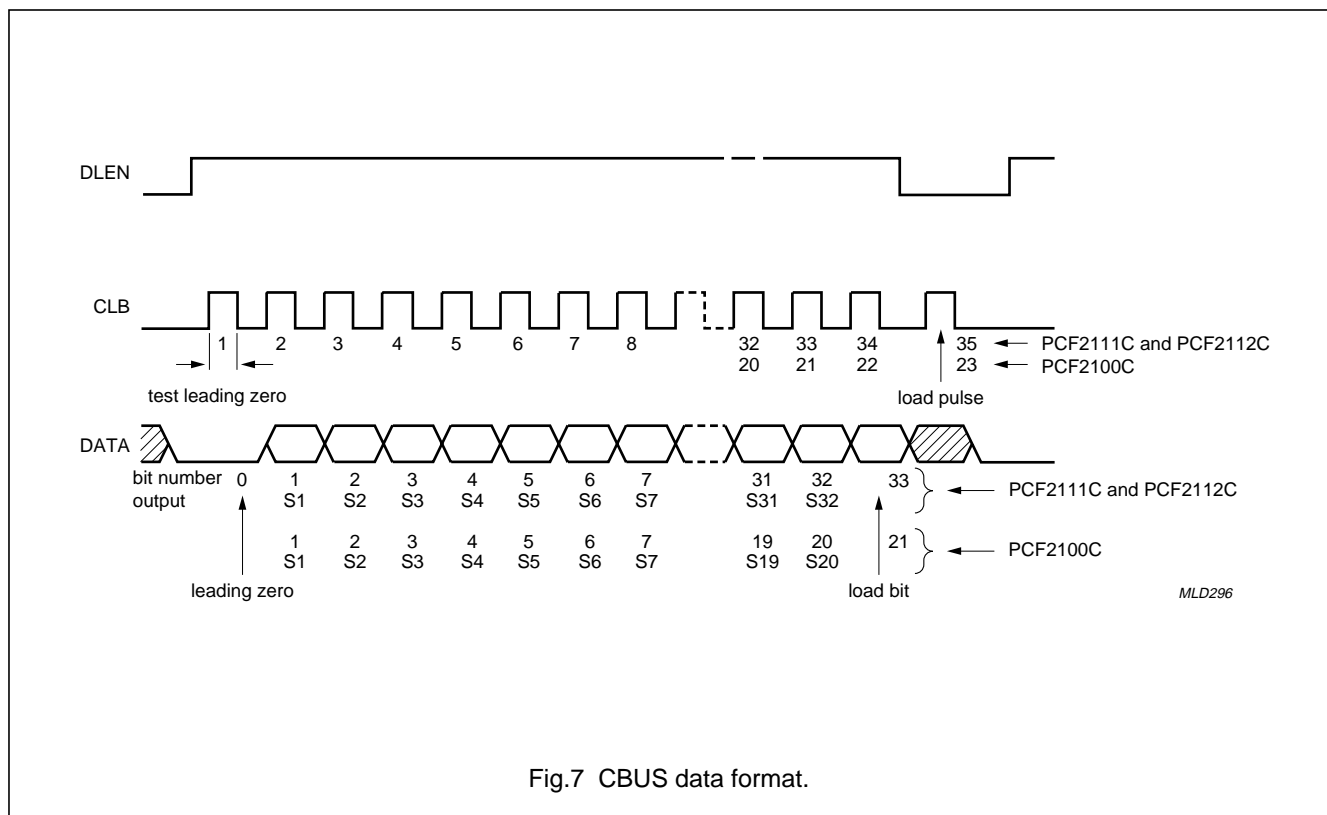

Fig.7 CBUS data format.
- (1) Load pulse 23 for PCF2100C (see Fig.7).
- (2) Load pulse 35 for PCF2111C and PCF2112C (see Fig.7).